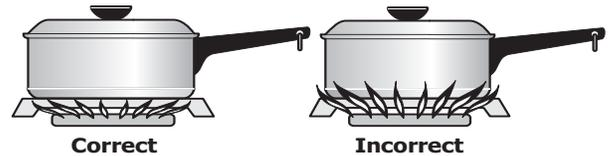

Figure 4: Gas flame adjustment
5. While holding the connector arm in place, twist the connector arm so the ends of the connector arm point upwards (See Figures 4 & 5). The connector arm should now be locked into position.